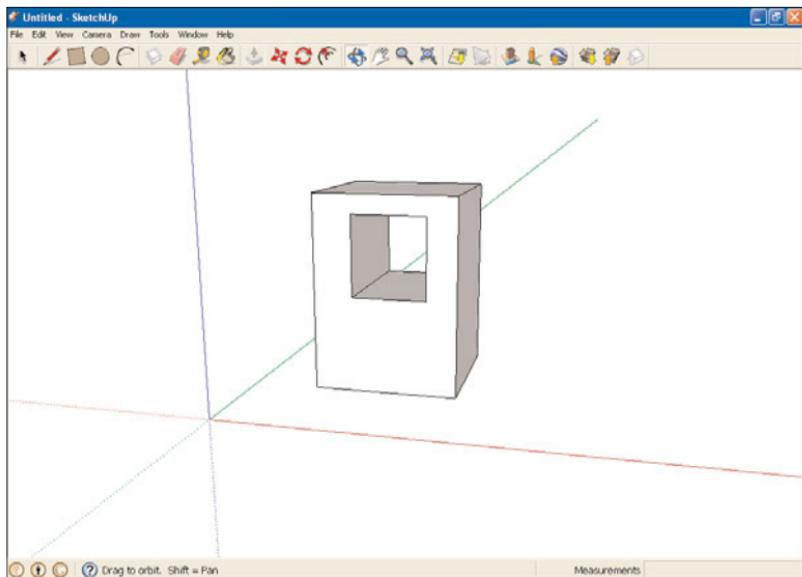

FIGURE 5.14 A 3D object with a cutout.
6. Push the rectangle through the object to the other side with the Push/Pull tool. The part you’ve pushed disappears, leaving a cutout, as you can see in Figure 5.14.